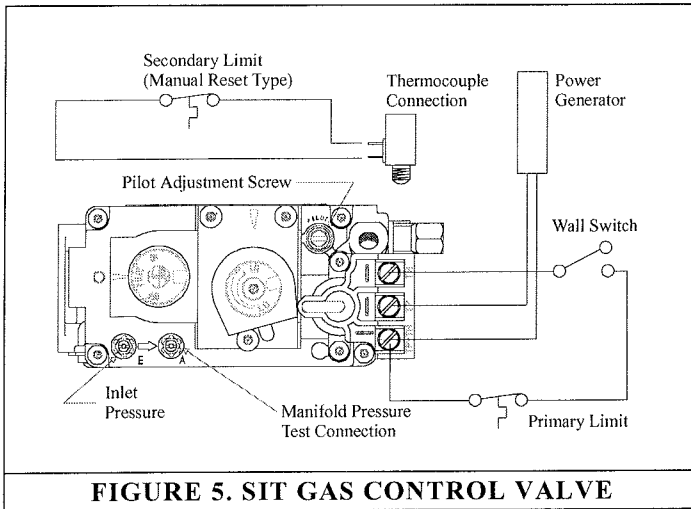

FIGURE 5. SIT GAS CONTROL VALVE
The **Montigo 36CST(-I)** is equipped with a remote-operated valve, located behind the removable grille. 10 Ft. of low voltage wire is supplied with the fireplace, simply mount a wall switch and connect low voltage wire. (Refer to **Figure 5**) The valve is pre-wired and has a completely self-contained millivolt electrical system: **DO NOT** connect any external power to it.
- Have the fireplace installation inspected yearly, including a visual check of the vent system, the burner and the pilot flame. For your convenience a 1/8" pressure tap is supplied on the gas valve for a test gauge connection. See Figure 5.